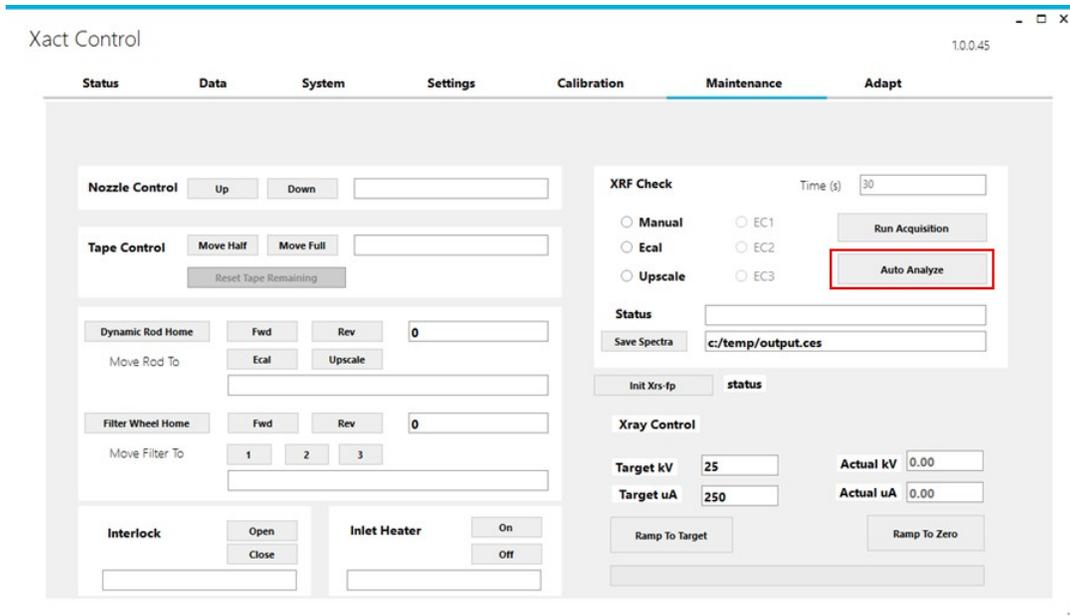

Figure 10.3: Automated Analysis of saved spectra.
10.2.6 Wait until the status indicates that the X-rays have started to ramp down, then click “Auto Analyze” (**Figure 10.3**).